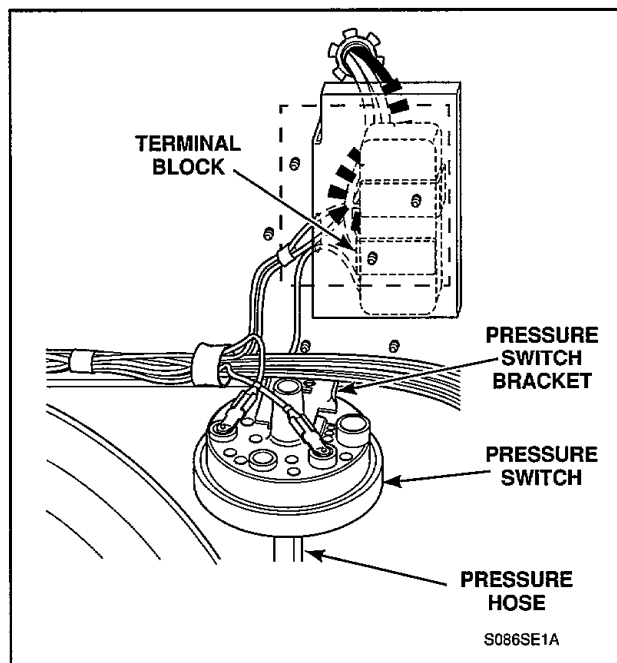

Figure 28
17. TERMINAL BLOCK (Refer to *Figure 28*)
- Disconnect pressure hose from pressure switch, *Figure 28*.
- Remove screw holding pressure switch and bracket to rear cross channel, *Figure 28*.